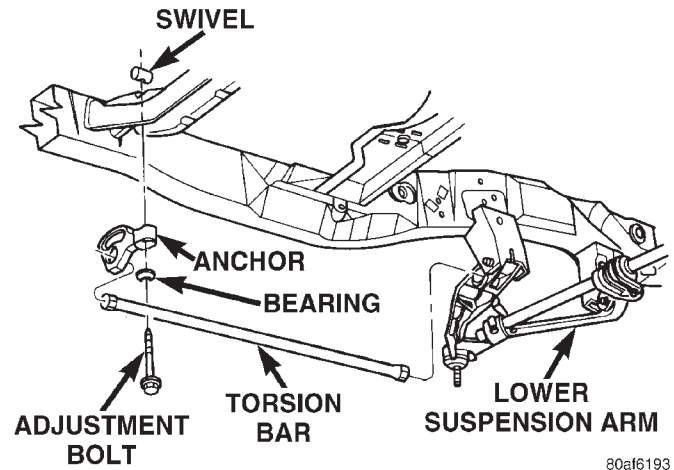

Fig. 3 Torsion Bar
(1) Raise and support the vehicle with the front suspension hanging.
(2) Turn the adjustment bolt counterclockwise to release spring load (Fig. 3).